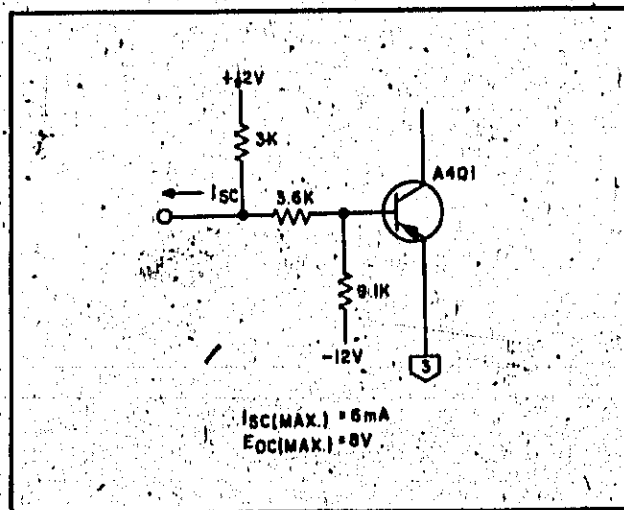

Figure B-3. Cable Continuity Interlock Receiver Circuit
B-30 Cable Continuity Interlock Receiver Circuit. Figure B-3 shows the cable continuity interlock circuit. The three input voltage divider resistors are selected so that a (3) common input will cause A4Q1 to saturate and an open (no input connection) will cause A4Q1 to cut off. The maximum current (ISC-MAX) that could be drawn from the input circuit when the input terminals are short circuited is 6mA. The maximum voltage (ECC-MAX) that appears across the input terminals under open circuit conditions is 8V.